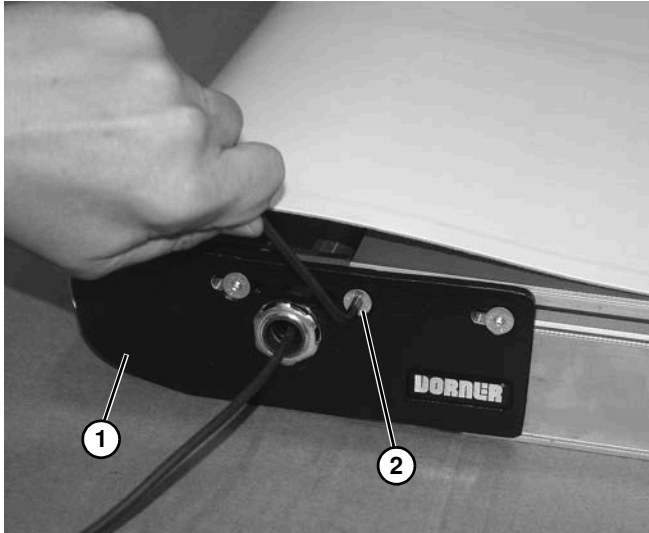

Figure 47
- c. On iDrive end of the conveyor, push in head plate assembly (Figure 47, item 1):
- Remove middle screw (Figure 47, item 2) from iDrive head plate (Figure 47, item 1) on each side of conveyor.